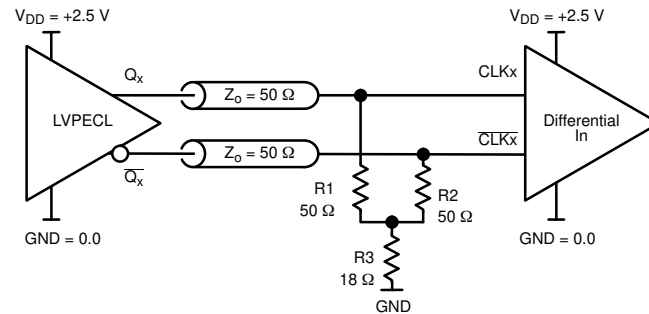
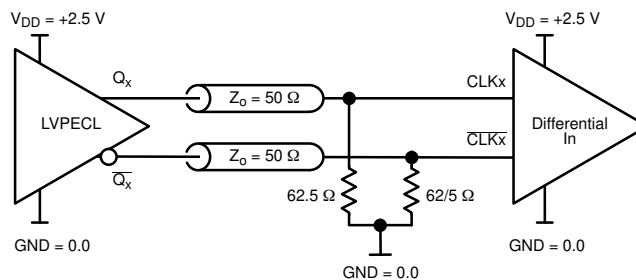

Figure 32. CLK / $\overline{\text{CLK}}$ Input Driven by 2.5 V LVPECL Driver ("Y" Parallel Termination)
Figure 33. CLK / $\overline{\text{CLK}}$ Input Driven by 2.5 V LVPECL Driver (Modified "Y" Parallel Termination)
- 2 V is very close to ground level. The R3 in Figure 32 can be eliminated and the termination is shown in Figure 33. Consult AND8020 for further termination information